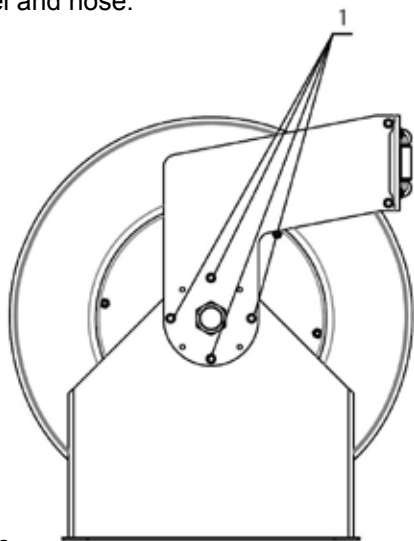
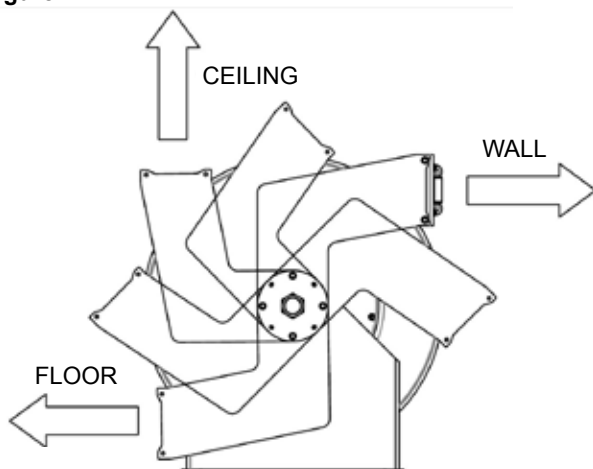

Figure 2
Figure 3
The *Signature EVX Series* hose reel is designed for service where larger volume deliveries are required & more hose capacity is needed. These twin pedestal heavy duty metal hose reels have been designed using the highest quality, heavy gauge materials and the outlet arm can be adjusted to six different positions (figure 3).
3. To move the hose guide arm and the hose outlet mouth, remove screws (1) (figure 2), place arm and outlet in correct position (figure 3) and replace screws.